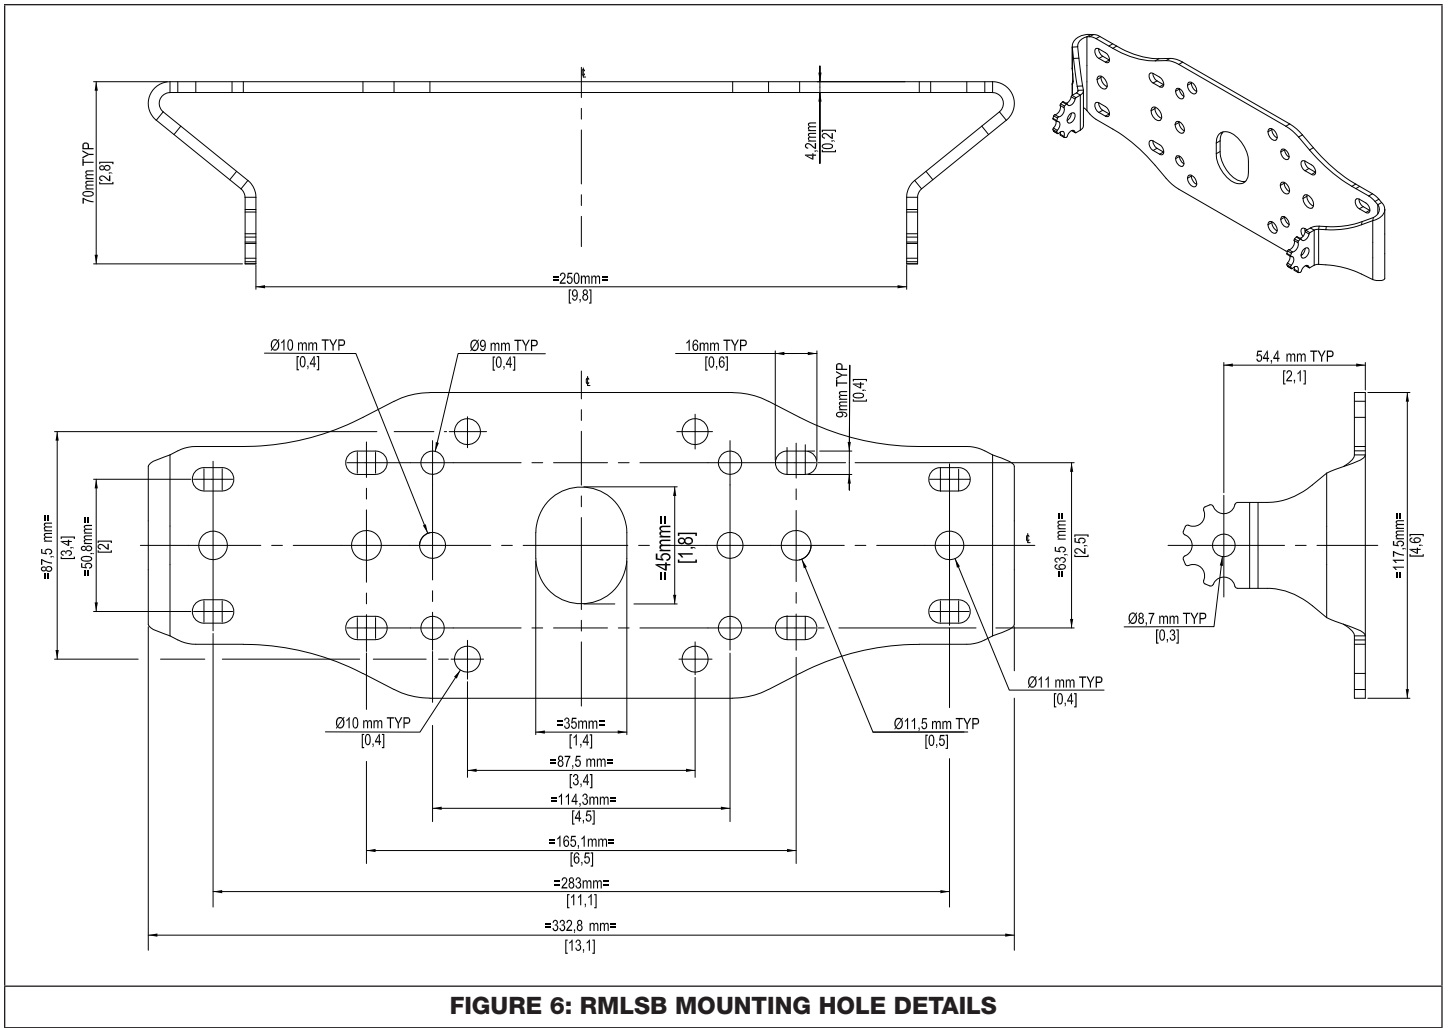

FIGURE 6: RMLSB MOUNTING HOLE DETAILS
2. Determine appropriate mounting distance between holes on the brackets for your application. Refer to Figure 6.